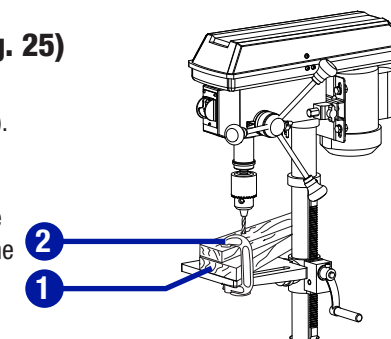

Fig. 25
**POSITION THE TABLE AND WORKPIECE (Fig. 25)**